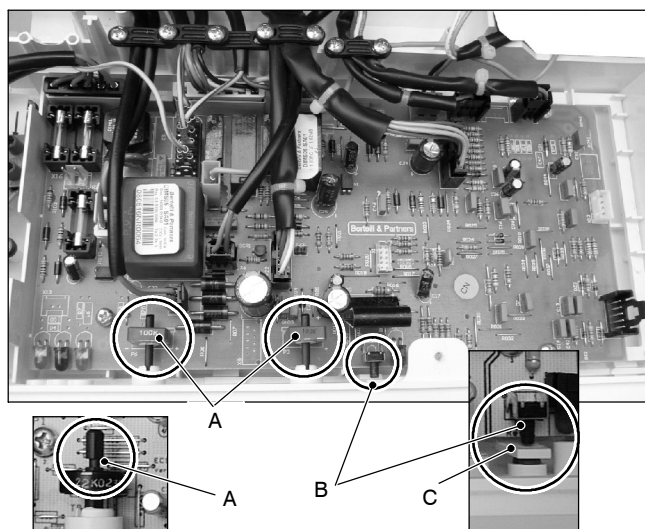

Fig. 9.13
- 9 Insert the spindles in the control panel knobs until the notch A (Fig. 9.13) reaches the potentiometer edge. It is not necessary to force them in the knob.
- 10 While tightening the screws that fix the Electronic control/ignition p.c.b. on the control panel, keep the p.c.b. towards the control panel fascia making sure of the contact between the boiler reset button B and the tab C (Fig. 9.13).